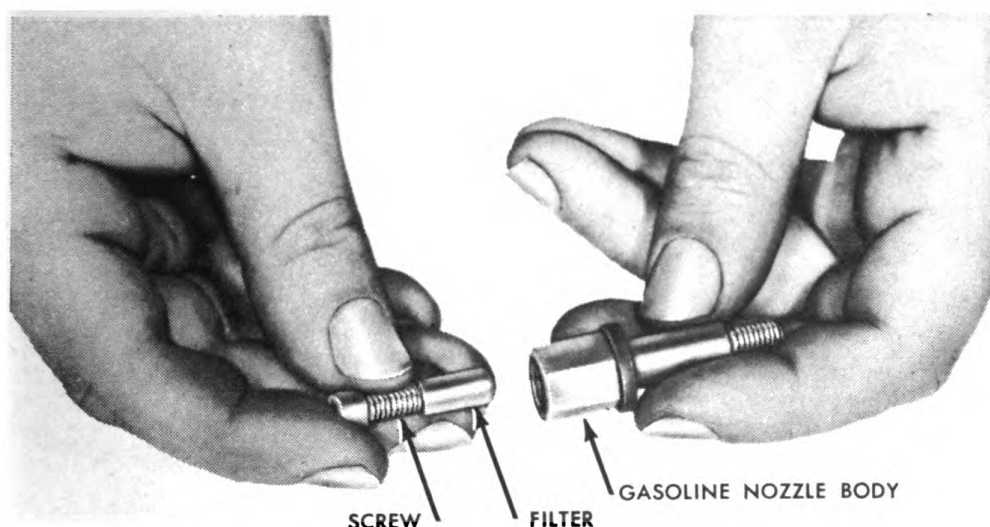

Fig. 72. Filter removed from gasoline nozzle body.
b. Removal and installation. (1) To remove atomizer assembly from fuel nozzle assembly, use procedure described in paragraph 88b.
(2) To install atomizer assembly on fuel nozzle assembly, see paragraph 88c.
c. Disassembly. (1) Air and gasoline nozzle assemblies. Separate air and gasoline nozzle assemblies from mounting plate and atomizer body by unscrewing them with a wrench. The nozzles are unscrewed from the nozzle assemblies with a wrench. The gasoline filter is removed by taking any No. 10-32 screw (one of the flame shield mounting screws serves the purpose) and screwing it into the filter until sufficient contact is made. Grasp head of screw and pull out the filter (fig. 72).
(2) Atomizer. When nozzle assemblies are removed from the mounting plate, the atomizer also separates from the plate. The socket head plugs in the atomizer can be removed by unscrewing them with socket head wrenches.
d. Assembly. (1) Air and gasoline nozzle assemblies. Assemble nozzle assemblies by reverse procedure of their disassembly (par. 89c) and insert them into the holes in the mounting plate in following manner: